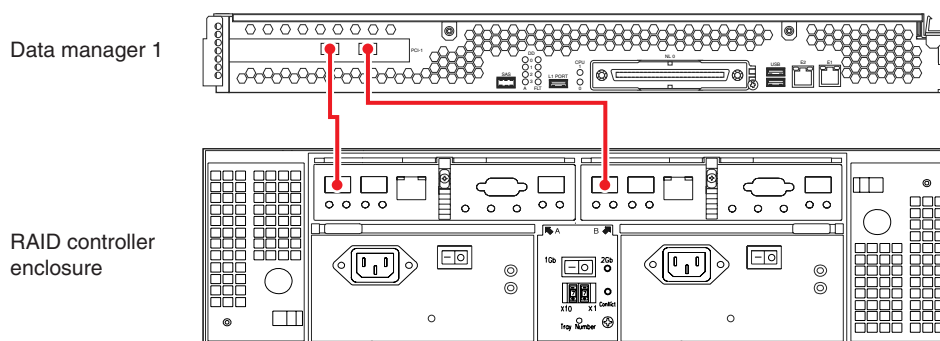

Figure 1-3 One Data Manager One Controller Enclosure Cabling (Dual RAID Controllers)
Use the following steps and Figure 1-3 to correctly cable a single-module data manager to a dual-controller RAID enclosure.
1. Connect the Data Manager's Fibre Channel PCI card port A (blue label [1A]) to RAID controller A's port 1 (blue label [1A]) on the controller enclosure, see Figure 1-3.